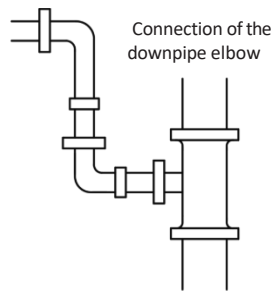

Fig. 4.14
- ②: Connecting the installed drain elbow (Fig. 4.14)